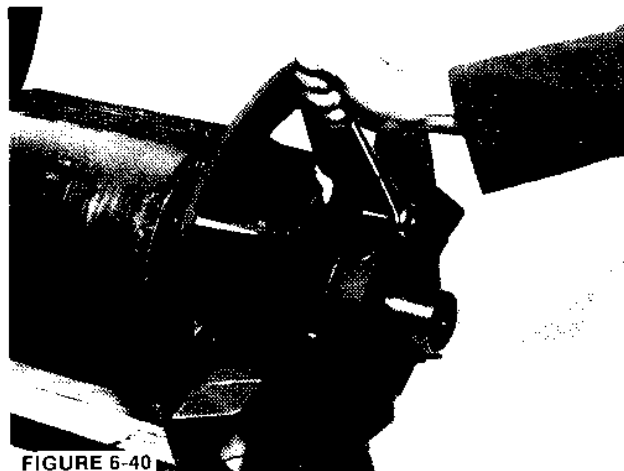
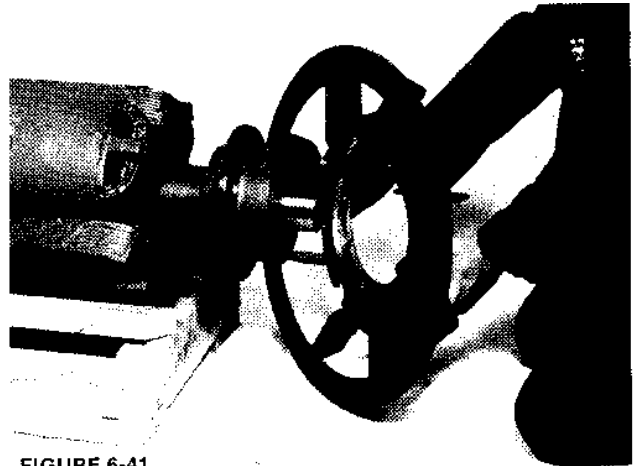

FIGURE 6-40
FIGURE 6-41
- a. For single bearing generators. Remove the fan mounting capscrews (Figure 6-40) and slide the fan off the shaft. (Figure 6-41.)
- b. For two-bearing generators, remove the drive end bearing and bearing cap. (See bearing removal instructions.) Remove the fan mounting capscrews and slide fan off the shaft. (Figure 6-40 and 6-41.)